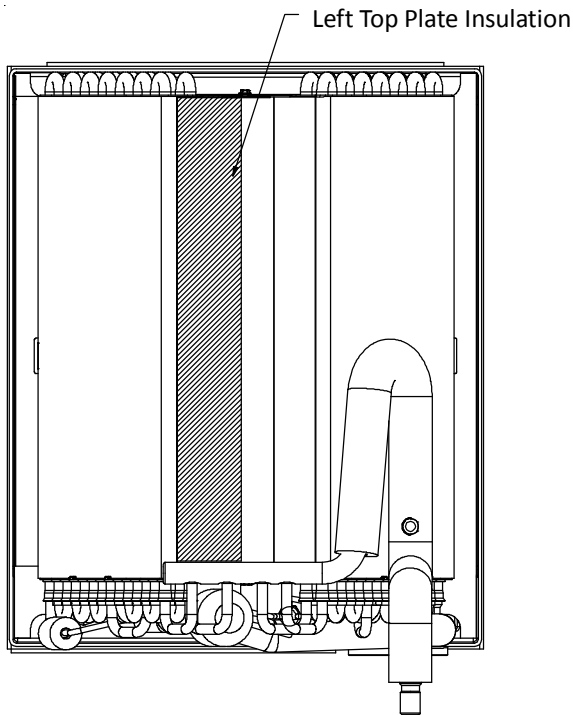

Figure 8 - Left Top Plate Insulation
2. Remove the tape backing from the insulation and apply following the left edge of the top plate. See Figure 8.